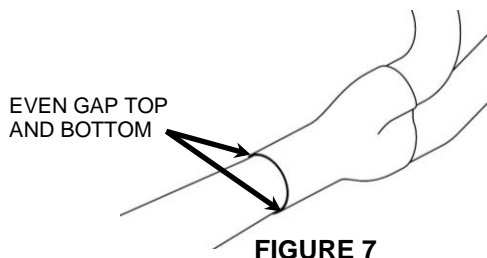
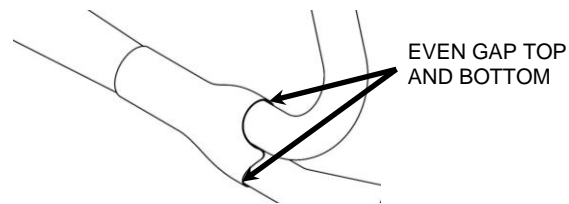

FIGURE 7
FIGURE 8
26. Adjust the heatshield fore and aft on the collector so there is a small and even gap between the rear of the collector heatshield and the front of the muffler body. See **FIGURE 7**. The muffler may need to be slid forward or backward on the mounting bracket to increase or decrease the size of the gap. Also be sure to rotate the front of the collector heatshield on the collector so that it sits on both the front and rear headpipe heatshields evenly. See **FIGURE 8**. NOTE: The headpipe heatshields may need to be adjusted fore and aft and or rotated on the headpipes to allow the collector heatshield to align properly.